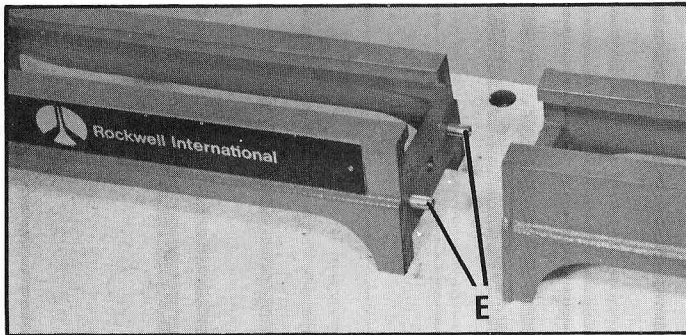

Fig. 29
3. Separate the sections of the lathe bed and remove the two roll pins (E) Fig. 29.